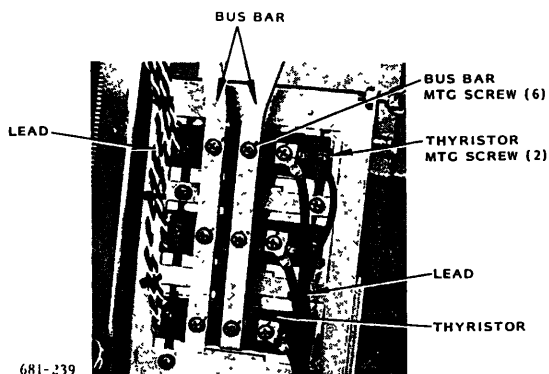

Fig. 14 Main Circuit Thyristor (230V, 105A)
1. Remove the 6 bus bar mounting screws, and remove the bus bar. The leads connected to the bus bar need not be removed. (Fig. 14)